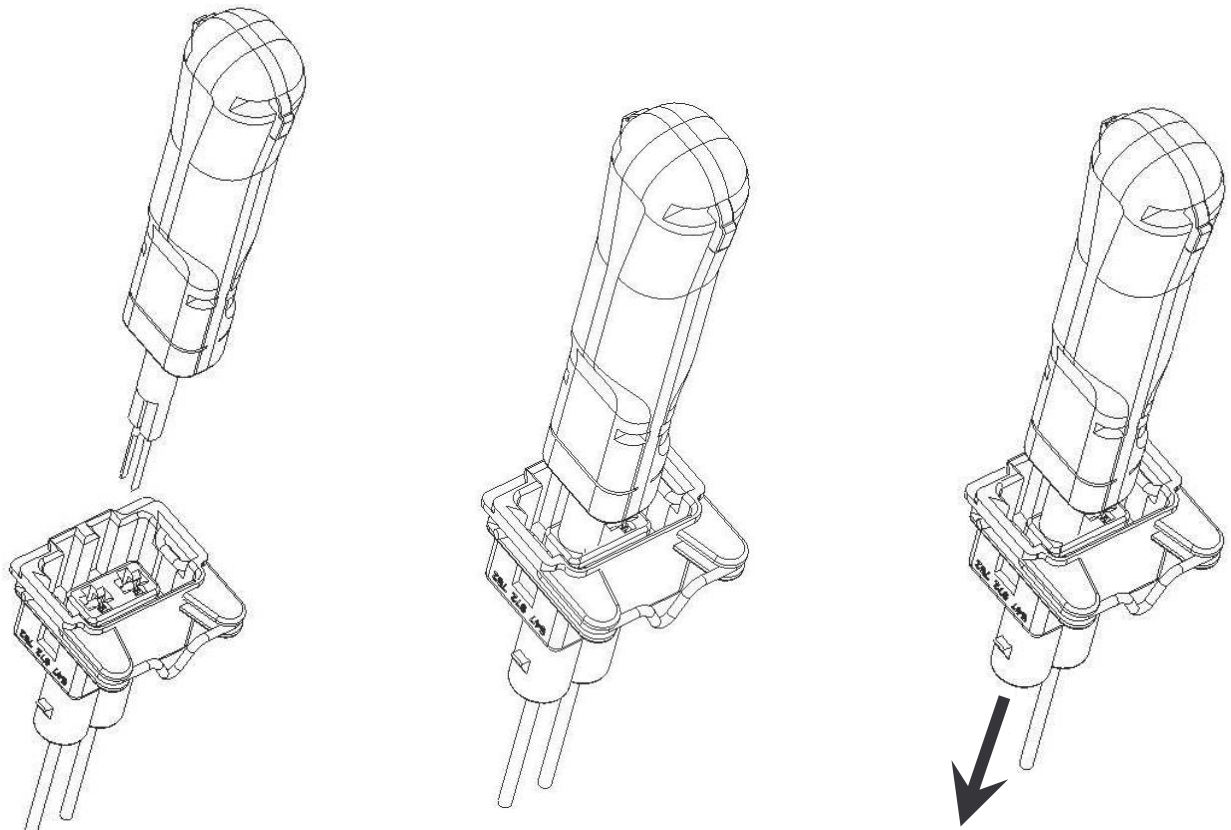

Figure 5
- 5.2 Insert the appropriate tool our Pn (968107-1), see figure 5 to the relevant seats of the cavities, and then pull the contacts in the direction shown by the arrows.